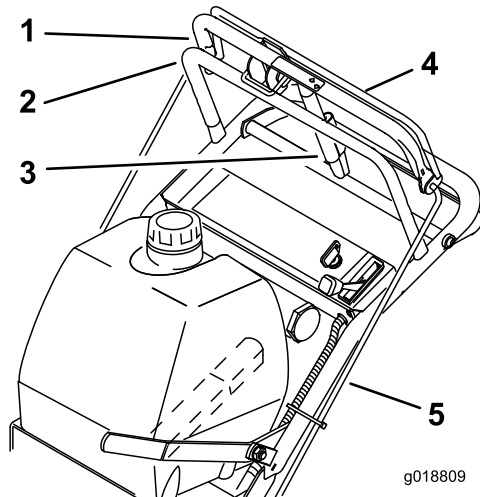

Figure 18
1. With the wheel drive fully engaged, check the gap between the upper control bar and the fixed bar. The gap needs to be approximately 25 to 32 mm (1 to 1-1/4 inches) as shown in Figure 18.